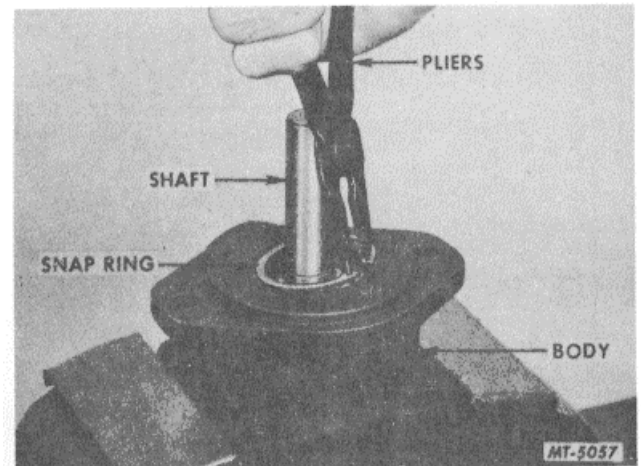

Fig. 12
8. Using Tru-Arc pliers remove the snap ring retaining the outer bearing in the body, Fig. 12.